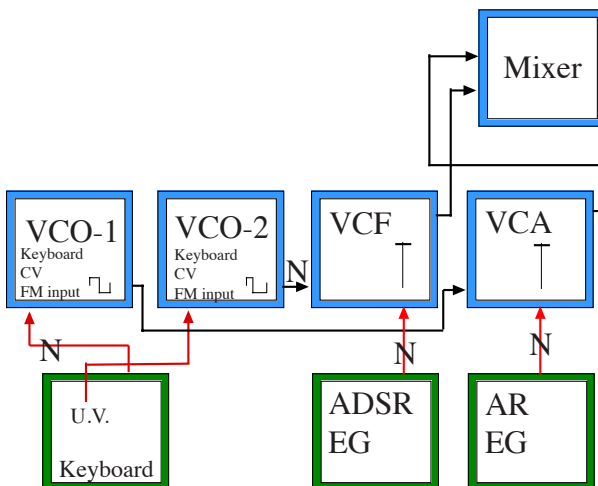

Figure 13-4: A duophonic keyboard patch
One must begin by deciding which oscillator(s) one wants to use for the upper voice, and which will be used for the lower voice. If three oscillators are used, one voice will naturally be stronger, since one voice will sound with two oscillators and the other will have only one. For the purposes of this example, each voice will be assigned one oscillator. (See Figure 13-4)
2. Create the duophonic patch shown in this section (Figure 13-4 on page 93). Try playing two single note melodies at once, and note what occurs when only one note is being played. **CD track 75**